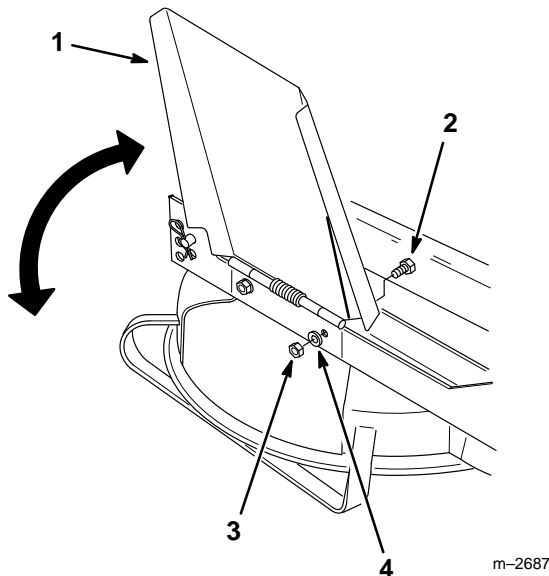

Figure 28
4. Install the discharge deflector onto the right side of the deck using the hex head bolts, flat washers and locknuts and removed in step 3 above (Fig. 28).